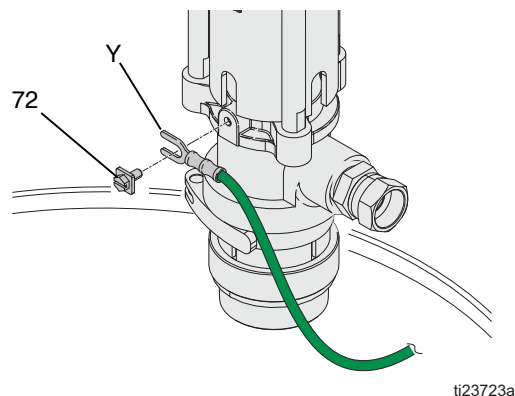

FIG. 9
Pump: Connect Ground Wire (Y) to grounding screw (72) and tighten the screw securely. See FIG. 9. Connect the other end of the wire to a true earth ground. Make certain to comply with all National, State, and Local Electrical Codes.